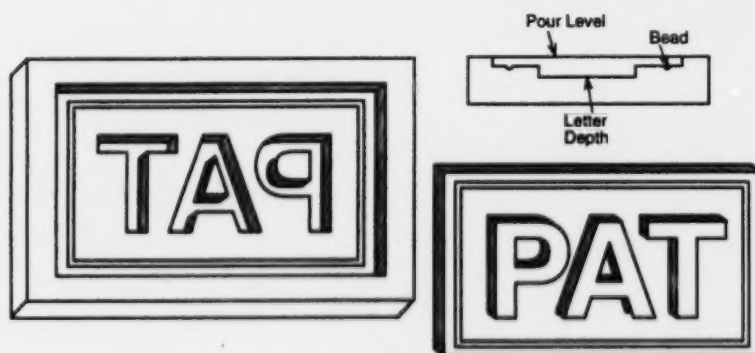

Figure 3 - Mold
2. Create a mold for the plastic cast. Pre-existing molds can be purchased from a technology education vendor or they can be made. Molds can be made from any number of material types, including wood, glass or metal. One idea would be to make a key-chain using a CNC mill, an NC mill or even a router to make the pattern. Remember, casting molds need to be made as mirror-images of the final desired product. (See Figure 3.)